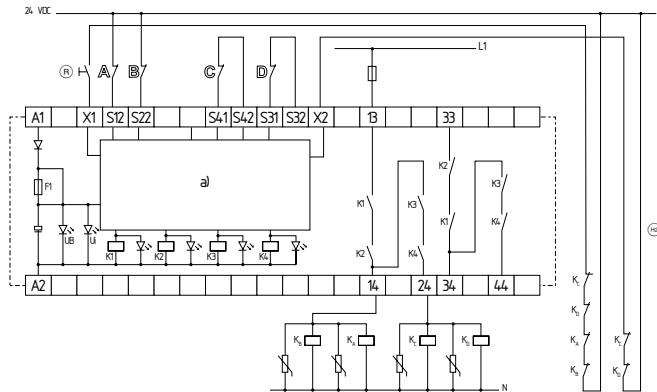

Fig. 2: SRB 400CS, 400CS/T, SRB 400SNA
Dual-channel control, shown for an emergency stop circuit; with two contacts A and B and a guard door monitor with two contacts C and D, where at least one is a positive break contact; with external reset button (R) (related on the switch-off level 1) (see Fig. 2)